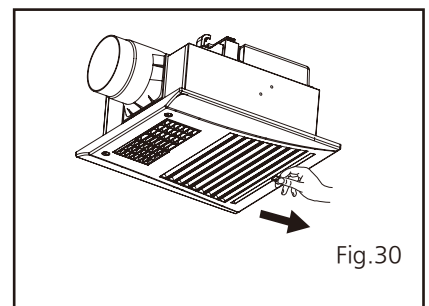

Fig.30
- ① Pull out the filter mesh assembly as shown in the figure (Fig.30).